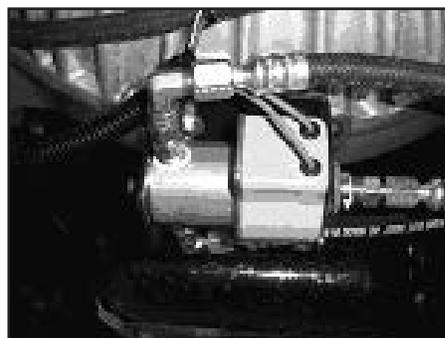

Figure 31
3. One recommendation for installation of the PTO. Remote Solenoid Valve is to locate it at the bottom forward area of the transmission housing (**Fig. 31**).